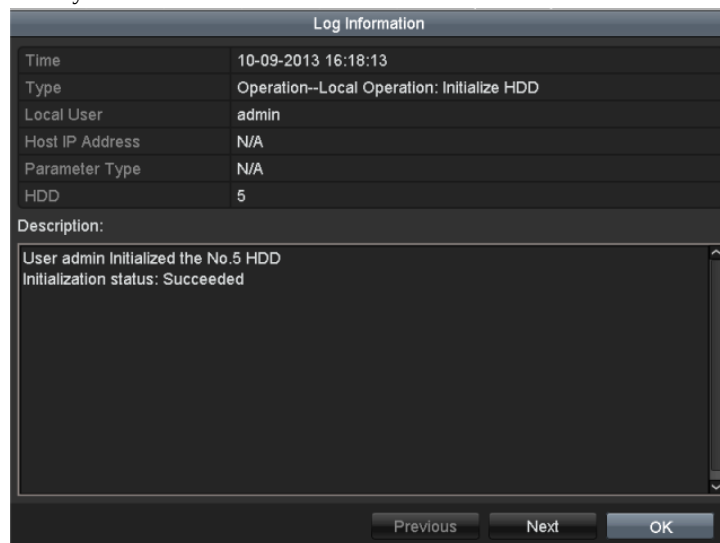

Figure 13.9 Log Details
- You can click the  button of each log or double click it to view its detailed information, as shown in Figure 13.9. And you can also click the  button to view the related video files if available.